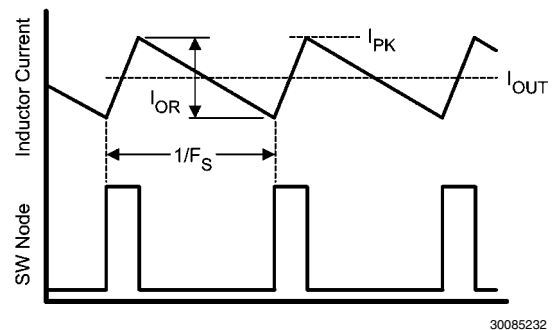

FIGURE 3. Inductor Current Waveform
**L1:** The main parameter controlled by the inductor value is the current ripple amplitude (IOR). See Figure 3. The minimum load current for continuous conduction mode is used to determine the maximum allowable ripple such that the inductor current's lower peak does not fall below 0 mA. Continuous conduction mode operation at minimum load current is not a requirement of the LM25085A, but serves as a guideline for selecting L1. For this example, the maximum ripple current is: